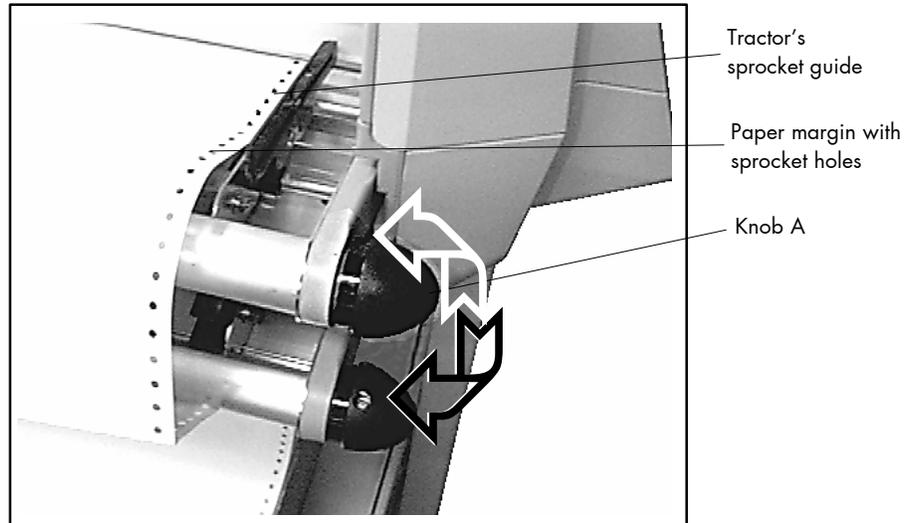

Fig. 4.1.2.c Adjusting the upper tractor to the paper width
5. Place the paper on the tractor as shown in fig. 4.1.2.c and 4.1.2.d.